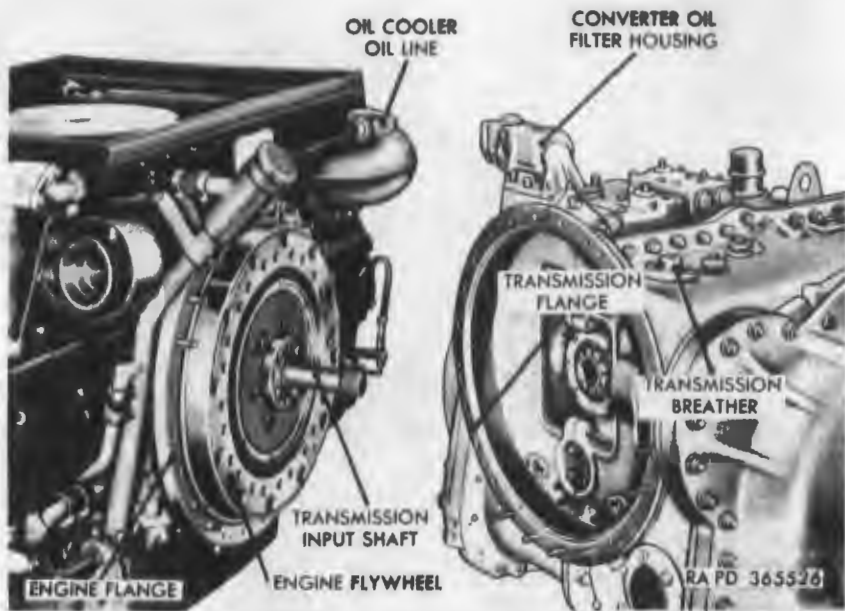
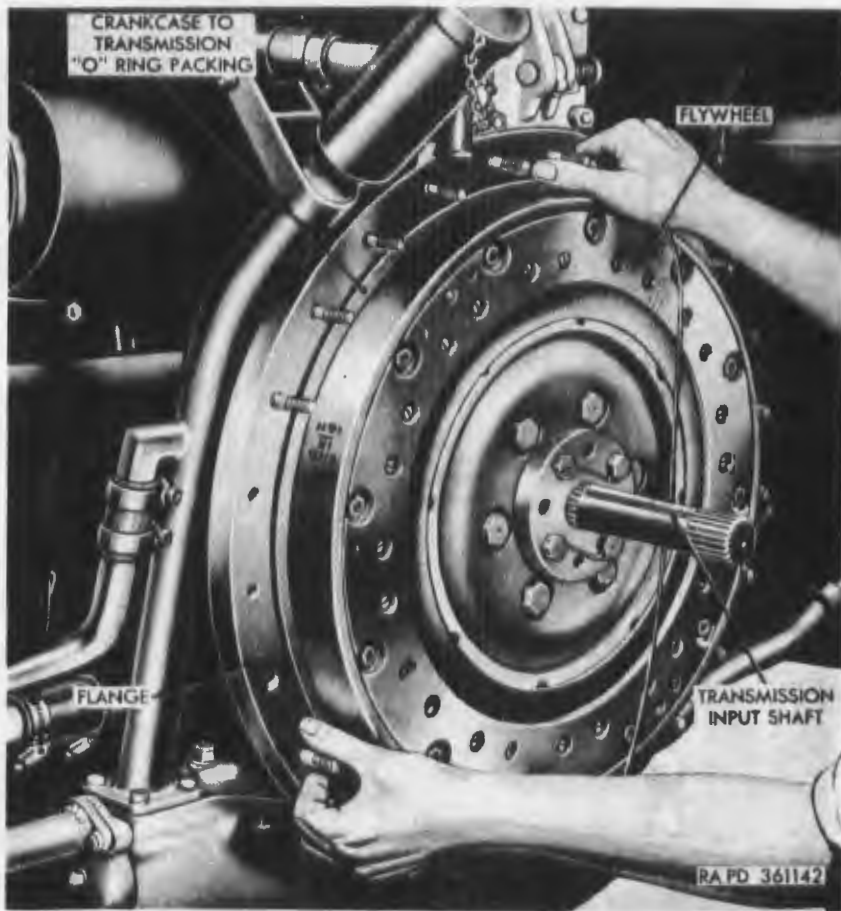

Figure 95. Engine and transmission separated.
Figure 98. Installing crankcase to transmission O-ring packing.
- (4) Loosen hose clamp and remove transmission vent hose from transmission breather (fig. 95).
- (5) Disconnect transmission oil cooler inlet and outlet oil lines (par. 165) from connectors at converter oil filter housing (fig. 95).
- (8) Gently tap around circumference of transmission input shaft (fig. 95) with soft hammer while pulling shaft from engine and remove shaft. Remove crankcase to transmission O-ring packing (fig. 98) and discard.
b. Wet new crankcase to transmission O-ring packing in soapy water and install on engine flange (fig. 98).
e. Connect transmission oil cooler inlet and outlet oil lines (par. 165) to connectors on converter oil filter housing (fig. 95).
f. Position transmission vent hose on transmission breather (fig. 95) and tighten hose clamp securely.